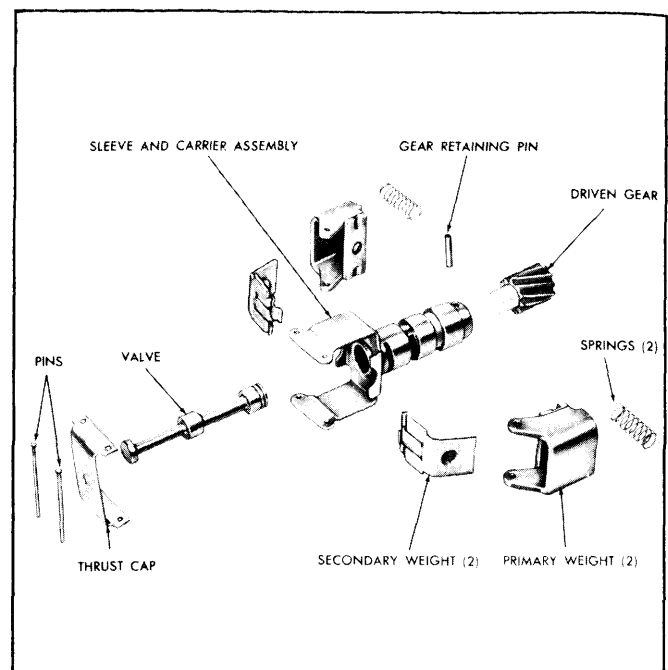

Fig. 7-95—Governor Assembly - Exploded View (Typical)
**GOVERNOR ASSEMBLY (Fig. 7-95)**
1. Cut off one end of each governor weight pin and remove pins, governor thrust cap, governor weights, and springs. Governor weights are interchangeable from side to side and need not be identified. (Fig. 7-95)